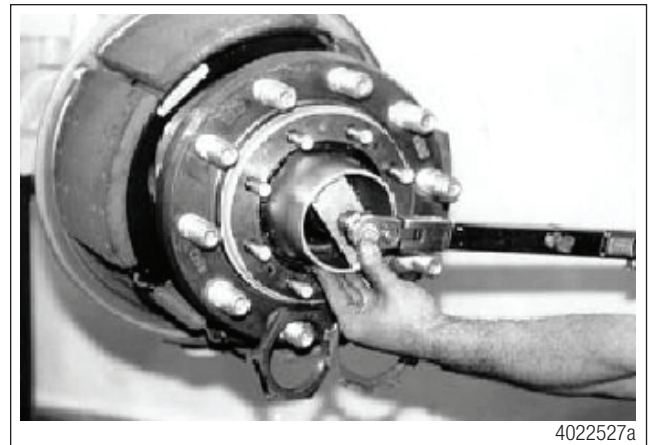

Figure 35
5. Remove the wheel bearing lock nut using a 4-1/8", 6-point socket (OTC 1915 4-1/8" or Snap-On ANS 1915A 4-1/8"). Remove the washer and adjusting nut from the spindle. Figure 35.